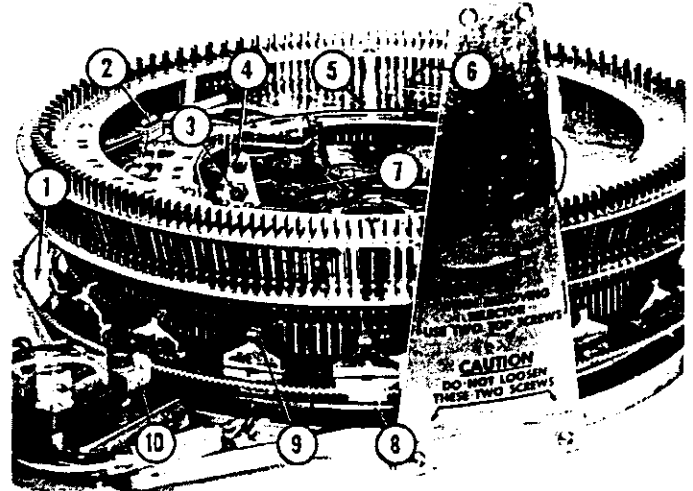
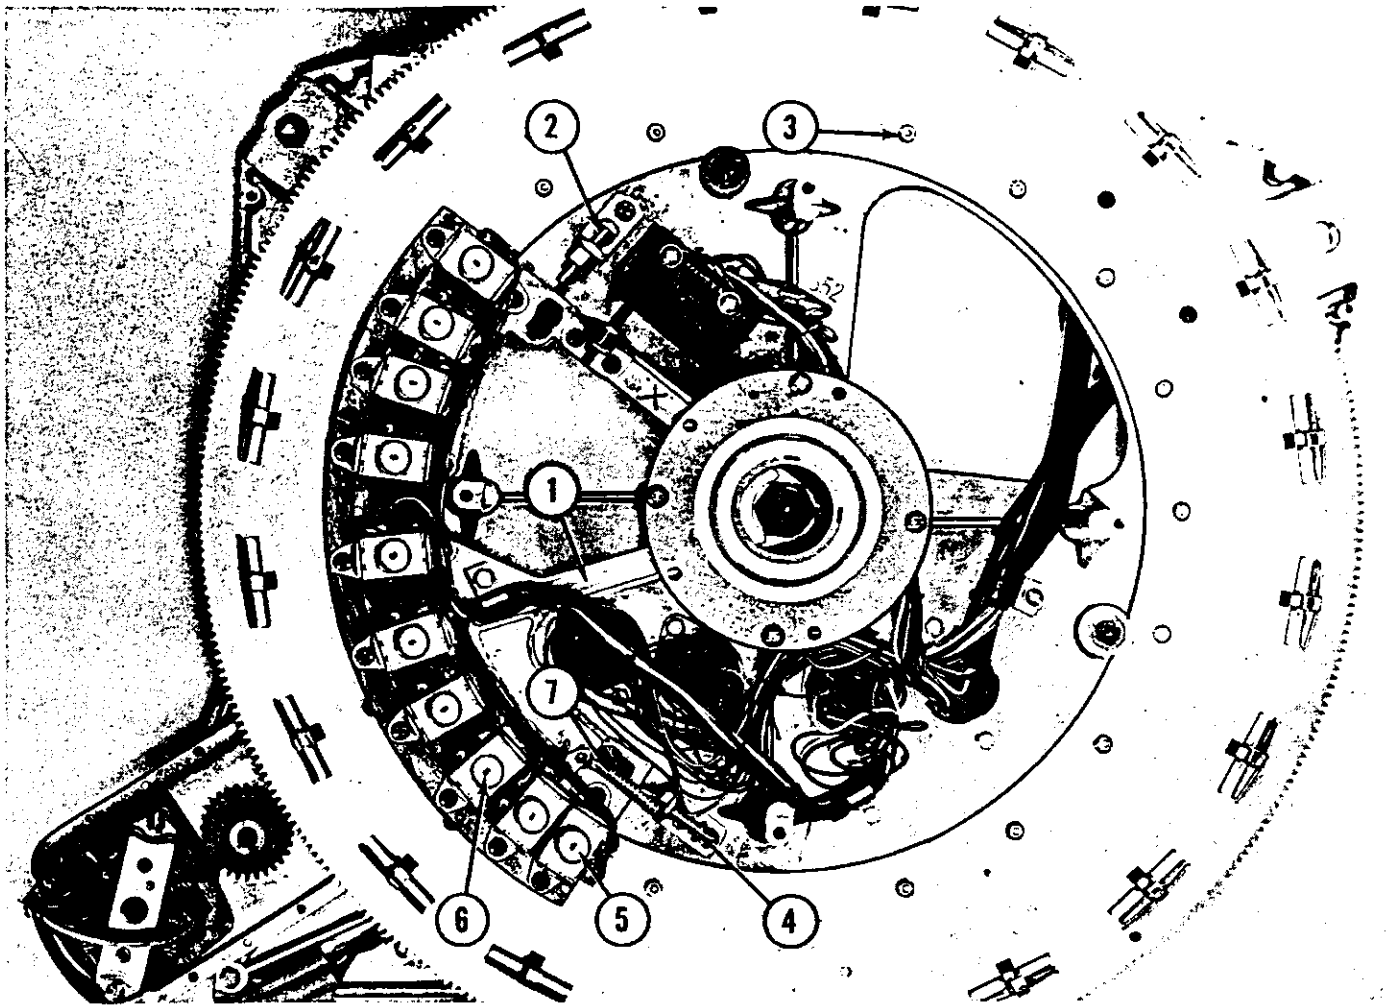

Fig. 52. ELECTRIC SELECTOR ADJUSTMENTS
Fig. 53. ELECTRIC SELECTOR ADJUSTMENTS
ELECTRIC SELECTOR ASSEMBLY, FIGS. 52 AND 53
The over-ride switch consists of four leaf type switches (Item 2, Fig. 52) mounted on the lower plate and spacer assembly (Item 5). One blade of each of these four switches is used for connection with the wobble ring by means of the four nylon spacers (Item 6). Upward movement of one or more latch pins raises the wobble ring which in turn will actuate one or more of the over-ride switches.
b. Forward Mechanical Stop of Number Quadrant - Item 2, Fig. 53.
To accomplish this setting, depress number solenoid No. 0 (Item 6, Fig. 53) and turn the rotating plate and rocker assembly (Item 1, Fig. 52) in a clockwise direction by turning the nylon gear of the selector drive motor (Item 10, Fig. 52). One of the twenty stop pins (Item 3, Fig. 53) will engage the depressed plunger of stop solenoid No. 0 and begin moving the number quadrant assembly (Item 1, Fig. 53). Continue rotation until the quadrant stops against the forward stop screw (Item 2, Fig. 53). At this point the hardened brackets at the top of the rockers (Item 9, Fig. 52) should all be aligned with twenty corresponding latch pins designated as No. "0" eg. A0, B0, C0 etc. Also the rocker actuating bars (Item 8, Fig. 52) must be aligned with their respective letter solenoid plungers at the forward stop position of both number stop "0" and number stop "1".
c. Start Switch Setting. Item 7, Fig. 52
The start switch (Item 7, Fig. 52) should be set to actuate by the forward motion of the number
quadrant. Set the adjusting screw (Item 3, Fig. 52) to provide switch action at the forward stop adjustment, established in "b", with $1/32" \pm 1/64"$ over-travel.
When the quadrant is released, the back stop (Item 4, Fig. 53) for the number quadrant should be set to provide $1/16"$ over-travel of the quadrant, after the start switch actuates. The spring (Item 7, Fig. 53) provides retracting action for the number quadrant.
e. Reverse Switch Setting. Item 4, Fig. 52
The reverse switch adjusting screw (Item 4, Fig. 52) should be set to provide over-travel in the
following manner: With the number quadrant against the back stop adjustment established in "d" turn the adjusting screw (Item 4, Fig. 52) clockwise until the switch is actuated and then counter-clockwise until the switch is again actuated. Continue the counter-clockwise adjustment $1/4$ turn of the adjusting screw after the switch actuates.